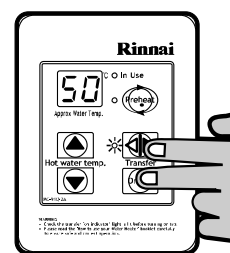

Fig. 7
STEP 1: For the controller in the KITCHEN only, press and hold the 'Transfer' and 'On / Off' buttons simultaneously (Fig. 7) until a 'beep' is heard (approximately 5 seconds).